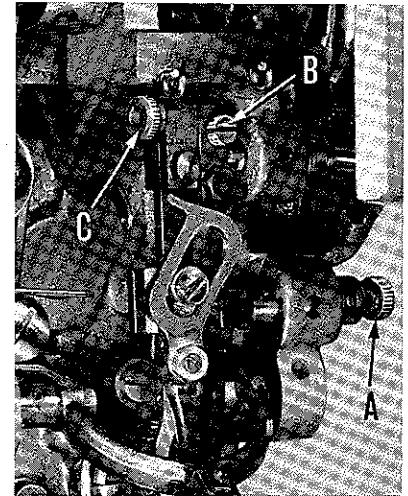

Fig. 19
A straight two thread stitch, instead of an overcast stitch, may be formed by removing the looper and spreader mechanism. This may be done by removing screw (A, Fig. 19) and loosening screw (B), and then removing stud (C). The looper and spreader mechanism can now be removed.